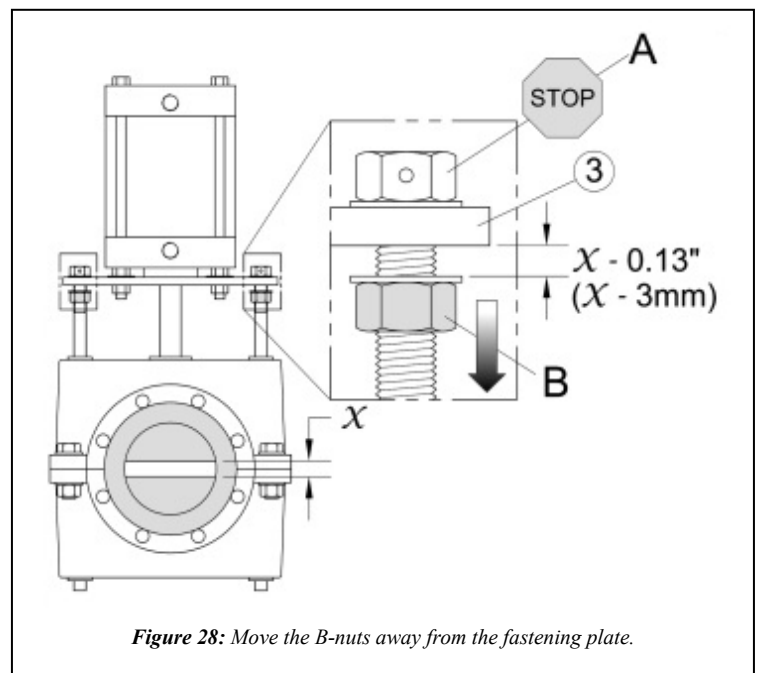

Figure 28: Move the B-nuts away from the fastening plate.
STEP 5: Determine the size of the gap, X, inside the RV Valve. Now turn both B-nuts away from the fastening plate ③ a distance $X - 0.13''$ (or $X - 3\text{mm}$).
DO NOT turn the B-nuts away from the fastening plate ③ more than the measurement, X! (Fig. 28).